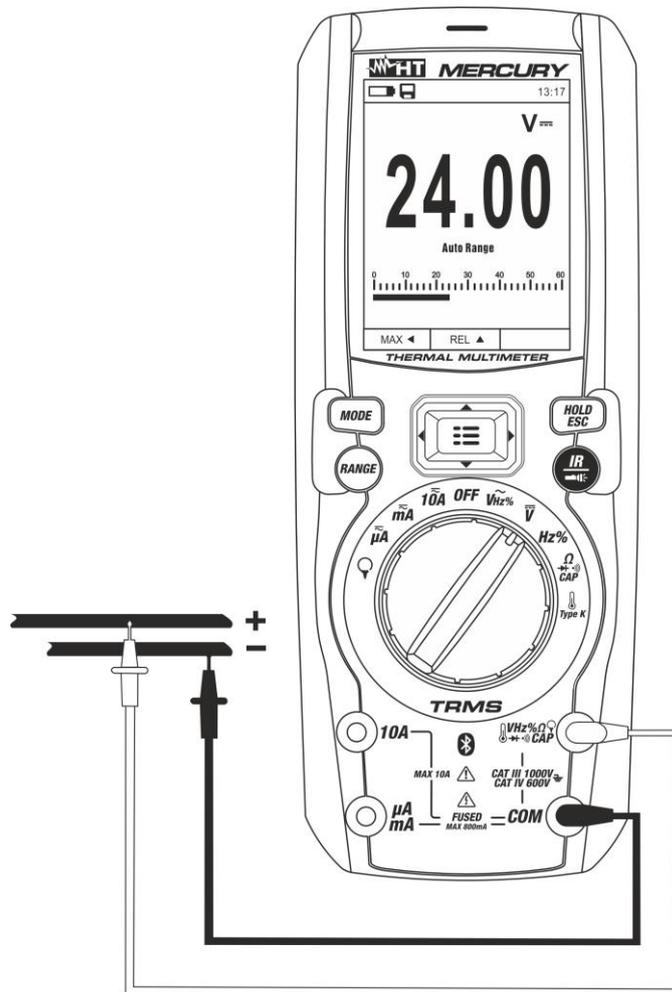

Fig. 21: Use of the instrument for DC, AC+DC voltage measurement
3. Position the red lead and the black lead respectively in the spots with positive and negative potential of the circuit to be measured (see Fig. 21). The display shows the value of voltage.
5. When symbol "**-**" appears on the instrument's display, it means that voltage has the opposite direction with respect to the connection in Fig. 21.